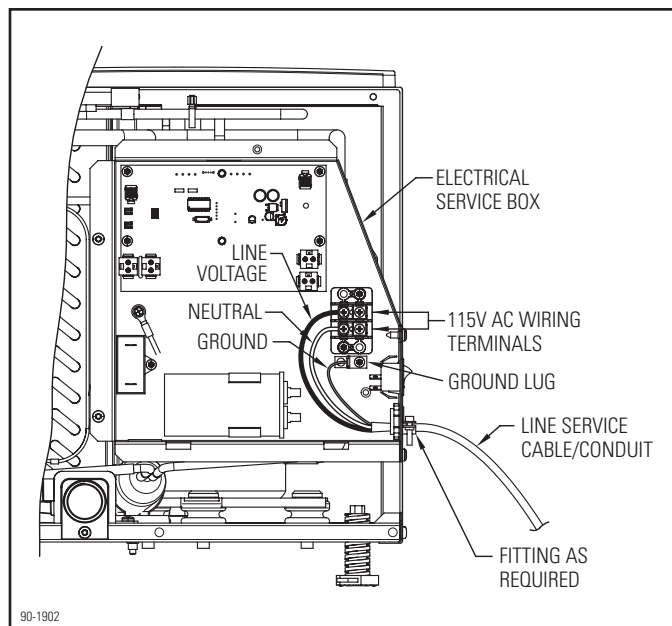

Figure 6. Hard Wire to 115 VAC Service
4. Disconnect the power cord connections from the terminals in the electrical service box. See **Figure 6**.
8. Connect the ground wire of the service cable to the ground lug in the electrical service box. See **Figure 6**.
9. Connect the line voltage wires of the service cable to the LINE BLK and NTRL WHT terminals. See **Figure 6**.